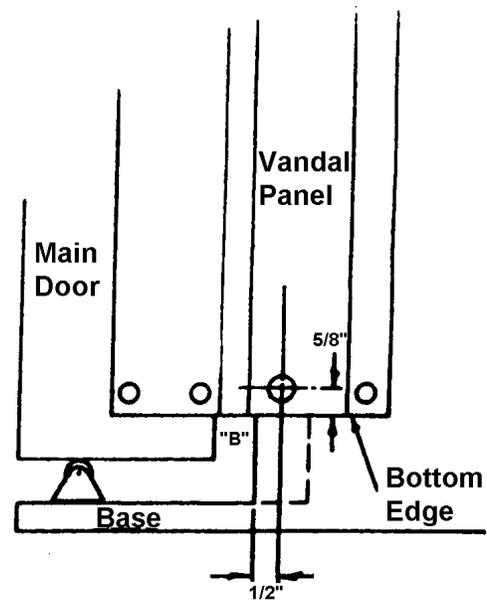

Figure 4
10. Insert the shank of the lock under the vandal panel and in the $\frac{1}{2}$ " hole at "B". See figure 4 on page 2.
5. Locate the bottom edge of the vandal panel. See figure 4.
8. Insert the shank of the lock under the vandal panel and in the $\frac{1}{2}$ " hole at "B" in figure 4.